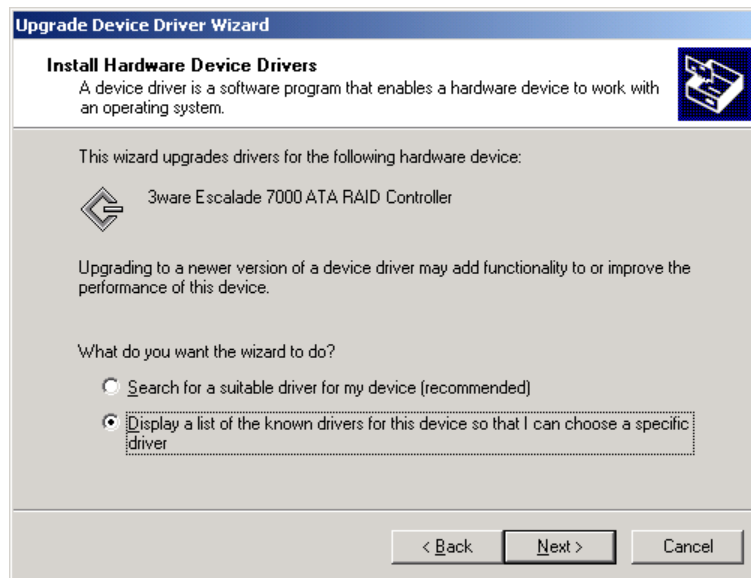

Figure 27. Upgrade/Install Device Driver
- 1 When you reach the **Upgrade Device Driver** screen shown in Figure 27, make sure to select “Display a list of known drivers for this device, so that I can choose a specific driver.” Then click **Next** and follow the instructions.